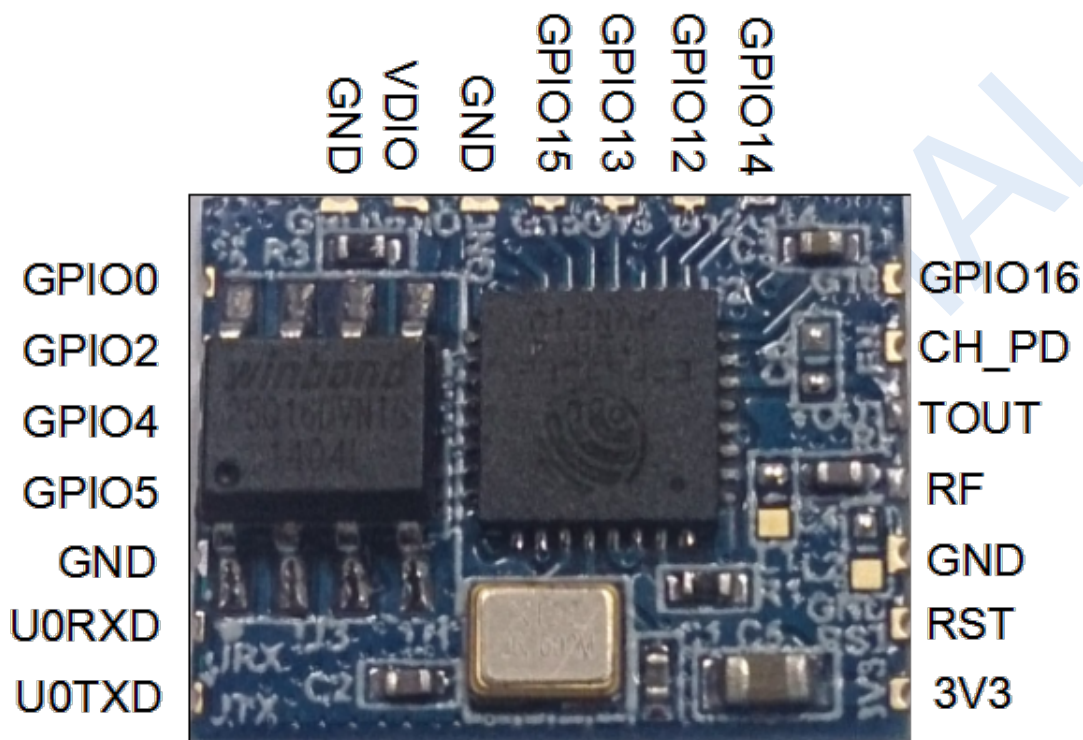

Figure 5: WROOM SMD Module
1. Refer to Figure 5 for pin definition. Module size is 11.8x15mm. Flash package is SOP8-150mil. Refer below for usage of SMD module (Tables in section 1.2.1 for reference):
1.3.2. Sensor Application (as in Fig. 5 USB Sensor Demo)